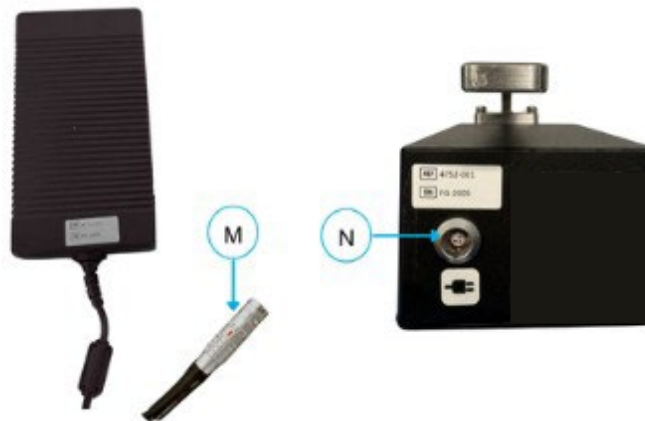

Figure 10-17: Plugging in the Motor Control Box
10. Plug the silver cylindrical connector ends (**M**) of the power cords from the Motor Control Box power bricks into the bottom of the Motor Control Boxes (**N**). The two red dots indicate correct alignment (**Figure 10-17**).